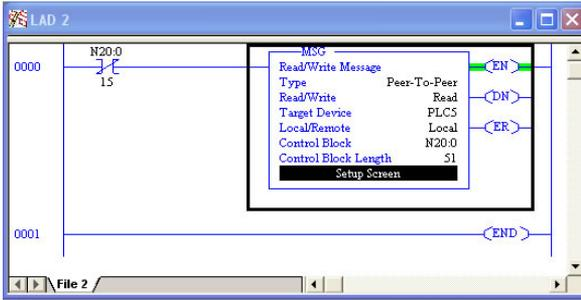

Figure 121: Completed PLC Program
7) **The program is now complete. Refer to Figure 121.**